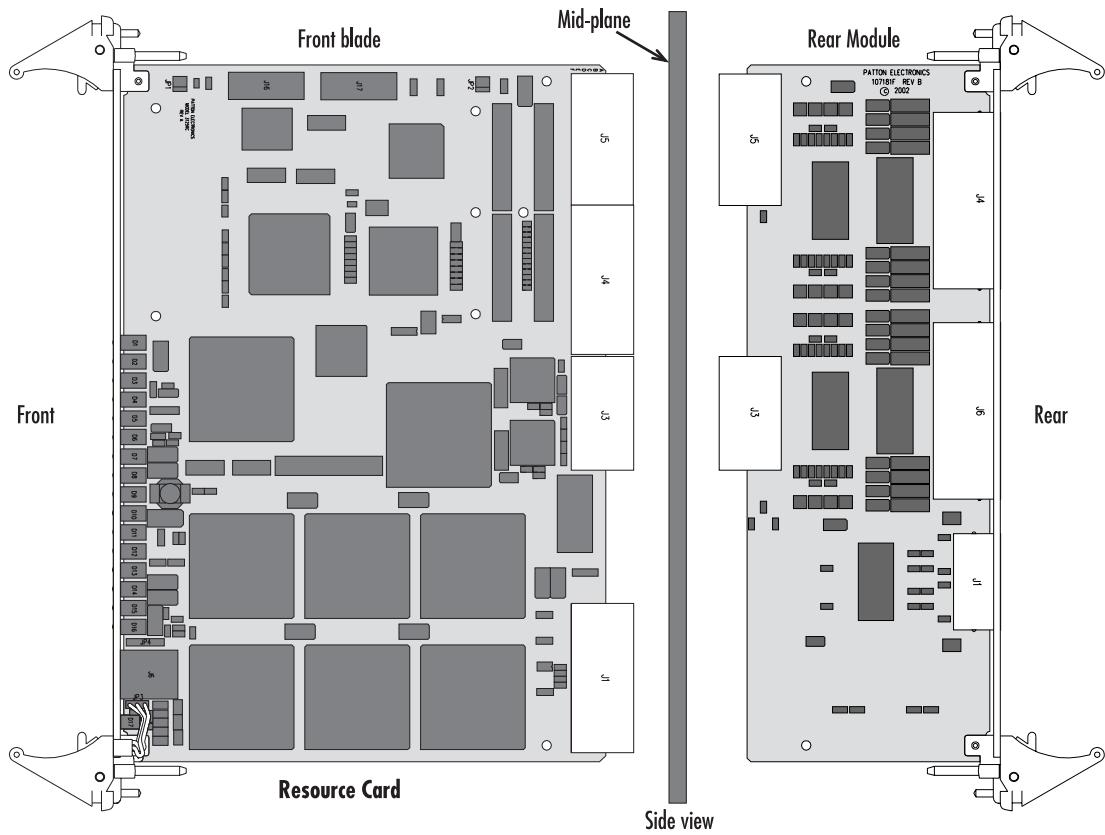
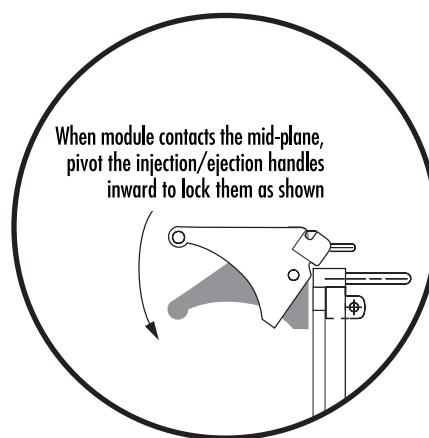

Figure 9. 3125RC and 3125TM installation diagram
Figure 10. Locking an injection/ejection handle
- Carefully slide the 3125TM into the chassis until it engages the mid-plane (see figure 9), when that happens, pivot the injection/ejection handles into locked position (see figure 10). Verify that the red tab in each handle *clicks* into place, indicating that the module is fully seated and locked.
5. Carefully slide the 3125RC into the chassis until it engages the mid-plane (see figure 9 on page 29), when that happens, pivot the injection/ejection handles into locked position (see figure 10 on page 29).